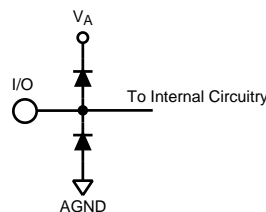

Figure 2.
- (1) The inputs are protected as shown below. Input voltage magnitudes above V_A or below GND will not damage this device, provided current is limited per Note 4. However, errors in the A/D conversion can occur if the input goes above 2.6V or below GND as described in the Operating Ratings section. See Figure 2.
- (2) With a full scale differential input of $2V_{P-P}$, the 12-bit LSB is $488\text{ }\mu\text{V}$.
- (3) Typical figures are at $T_A = 25^\circ\text{C}$ and represent most likely parametric norms at the time of product characterization. The typical specifications are not ensured.
- (4) The input capacitance is the sum of the package/pin capacitance and the sample and hold circuit capacitance.
- (4) This parameter is specified in units of dBFS - indicating the value that would be attained with a full-scale input signal.
- (2) With a full scale differential input of $2V_{P-P}$, the 12-bit LSB is 488 μV .
- (2) With a full scale differential input of $2V_{P,P}$, the 12-bit LSB is 488 μV .
- (4) This parameter is ensured by design and/or characterization and is not tested in production.